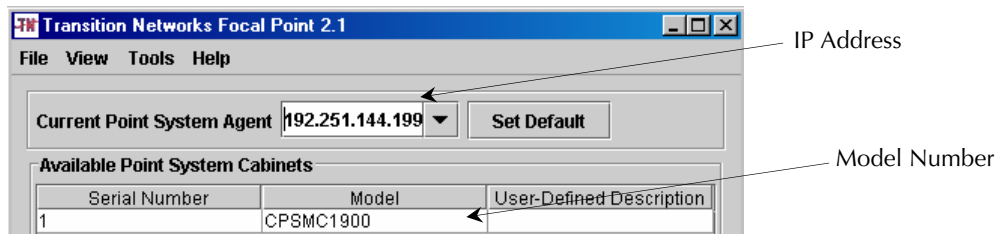

Figure 13: Enter Current Point System Agent IP address
1.	Enter an IP address in the [Current Point System Agent] text box as shown in Figure 13.
2.	Press ENTER and the CPSMC cabinet model number will appear under 'Model' as shown in Figure 13.